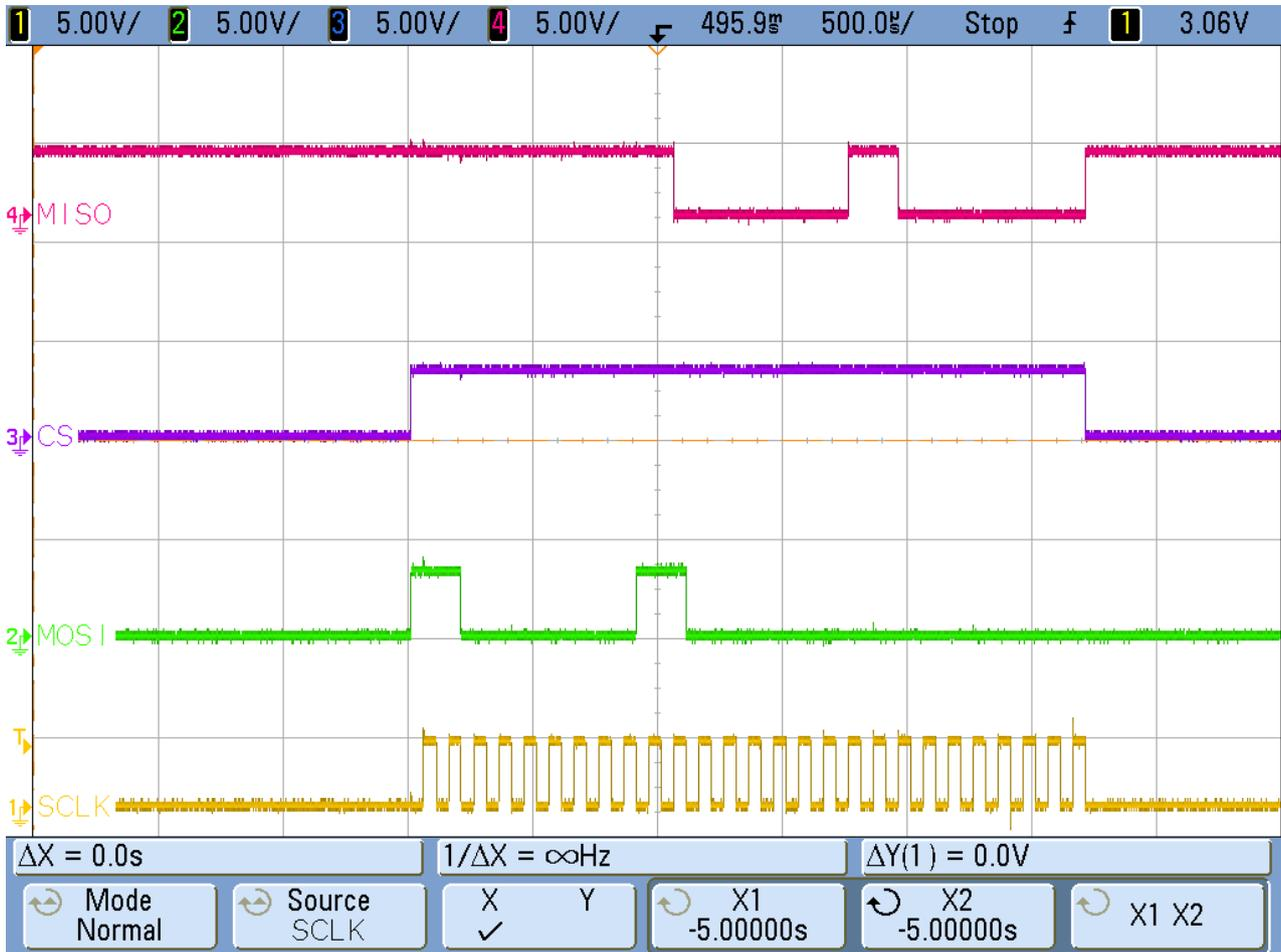

Figure 5 Read 3 from Address 3
The Figure 5 screen capture shows a Read command applied to MOSI (110), followed by the address 3. The MOSI output shows the data read (3).